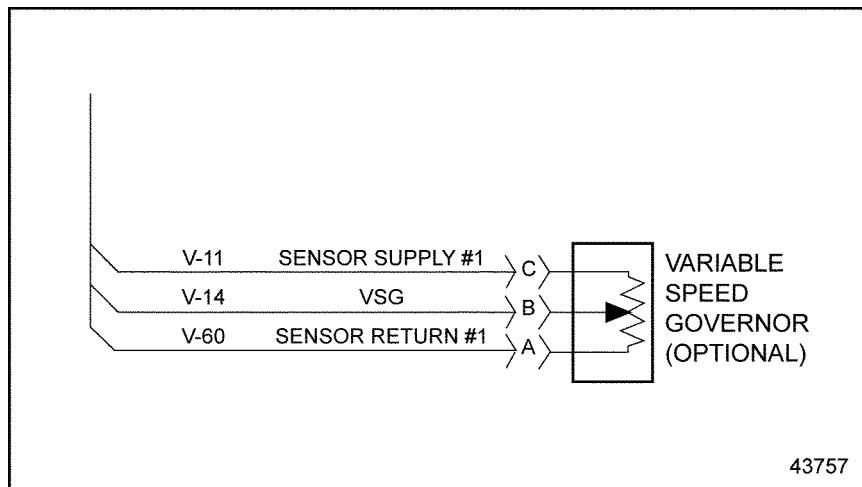

Figure 20-2 Variable Speed Governor Circuit
4. Measure resistance between sockets A (V-60) and B (V-14) on the hand throttle sensor harness connector. For VSG circuit, see Figure 20-2.
1. Install a jumper wire between sockets A and B of the hand throttle sensor harness connector. See Figure 20-2.